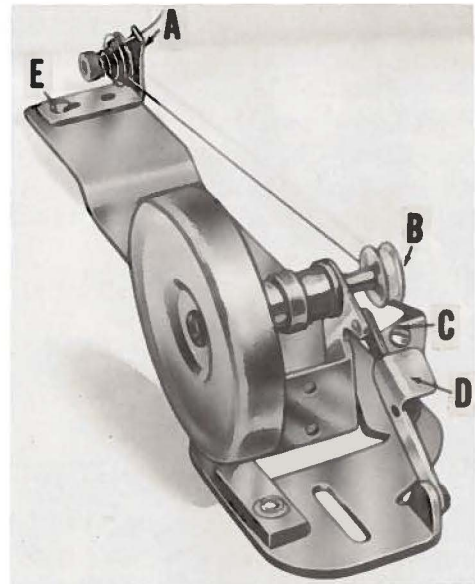

Fig. 5
Thread the bobbin winder by leading the thread from the supply down through the eyelet (A, Fig. 5), down between the tension discs, and under the tension post. Press an empty bobbin on the winder shaft (B) up to the stop, wind the end of thread around the bobbin a few turns in a clockwise direction, and press downwardly on hand lever (D) until pulley is moved into contact with machine belt, and is locked in that position. When the machine is operated, the bobbin will be rotated and filled until the thread engages the automatic throw-out member, which disengages the pulley. The extent to which the bobbin is filled can be varied by regulating the screw (C).